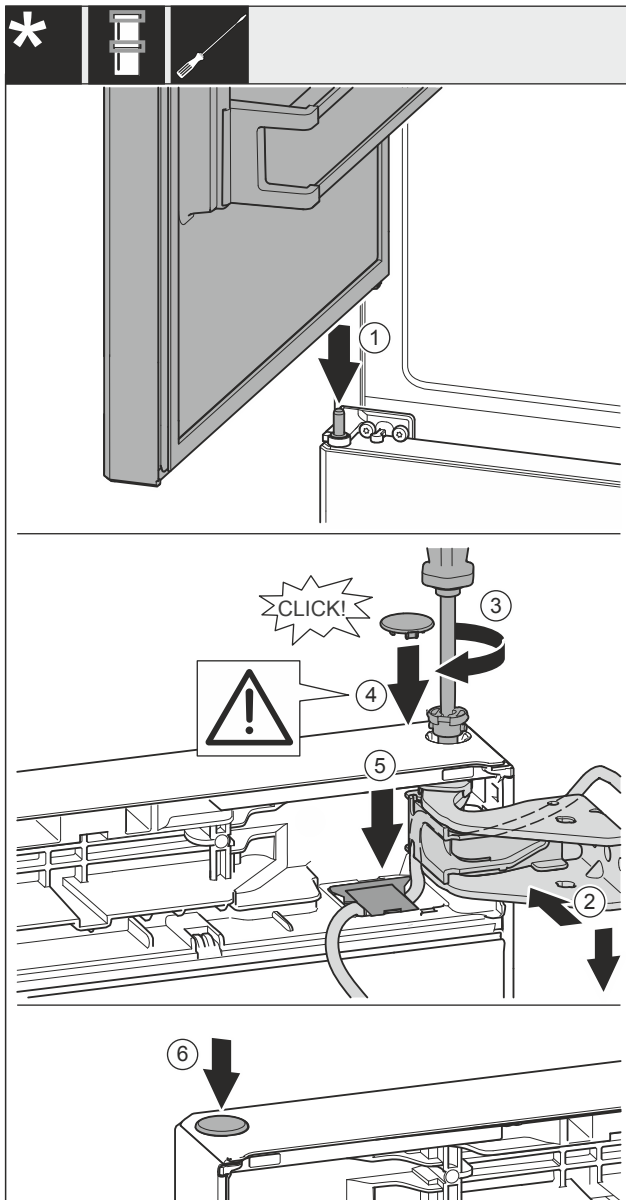

Fig. 46
- Place the top door on the centre bearing bolt Fig. 46 (1).
- Align the top door with the opening in the swap bearing block Fig. 46 (2).
- Insert the bolt Fig. 46 (3) and use screwdriver to tighten it.
- Insert the cover Fig. 46 (4).
- Check that the cover Fig. 46 (4) is resting on the door.
- Insert the cover Fig. 46 (5) and push down until it engages.
- Insert the cover Fig. 46 (6).